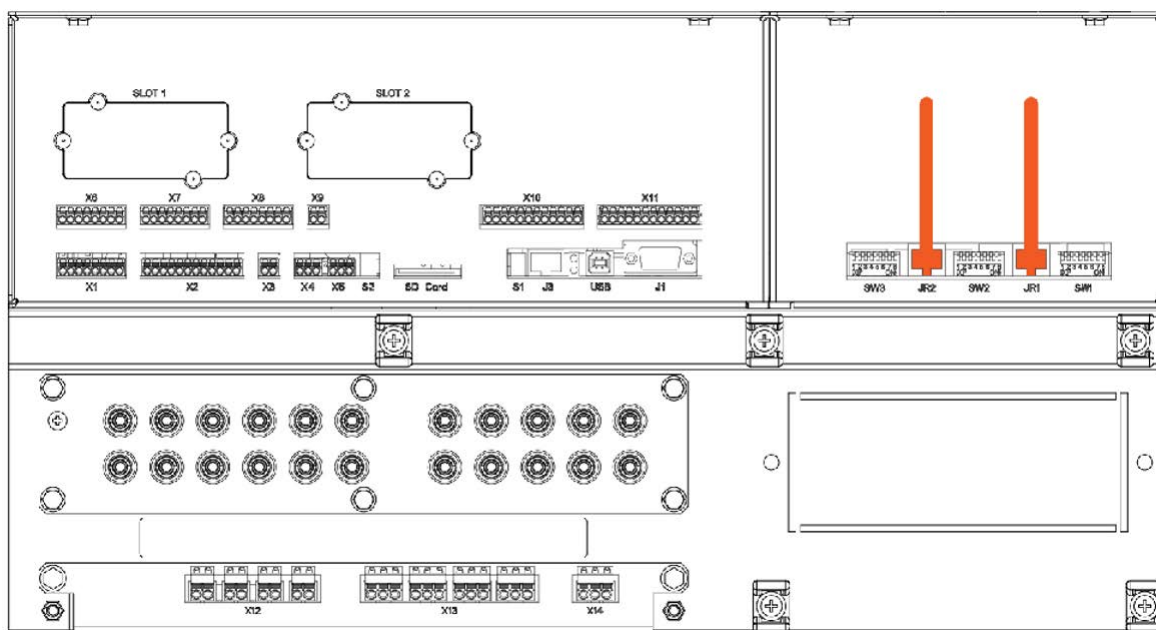

Figure 5.16 Customer interface board
4. Remove the cover in front of the communications interface board, connect the cables to JR1 & JR2 as shown in Figure 5.16, then refit the cover.